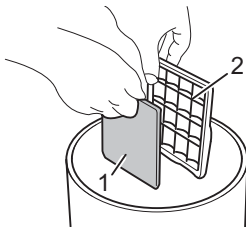

Fig. 24
3. Separate the protective motor filter (Fig. 24/1) from the filter holder (Fig. 24/2) over a dustbin.